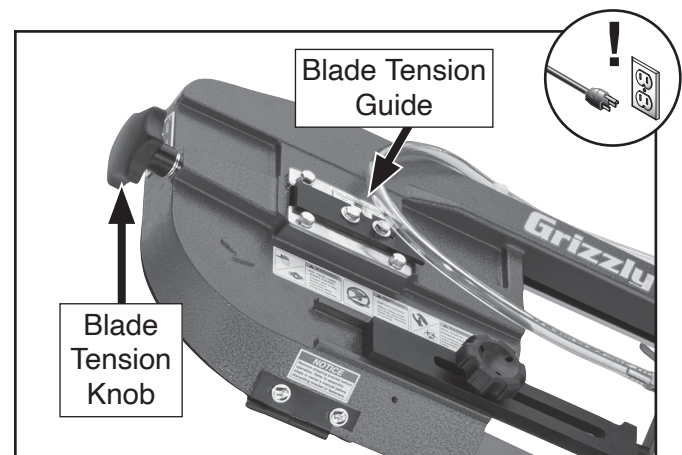

Figure 43. Location of blade tension handle knob and guide.
2. Turn blade tension knob clockwise to tension blade until blade tension guide indicator is in green zone (see **Figure 43**).